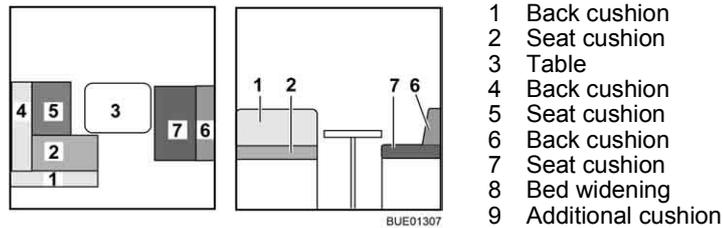

Fig. 143 Prior to conversion
- Convert the table (Fig. 143,3) to a bed foundation (see section 6.11).
- Remove the back cushion (Fig. 143,1) and lay it aside.